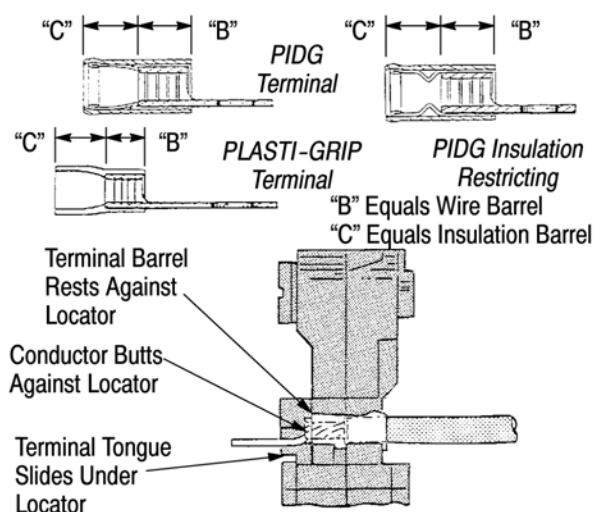
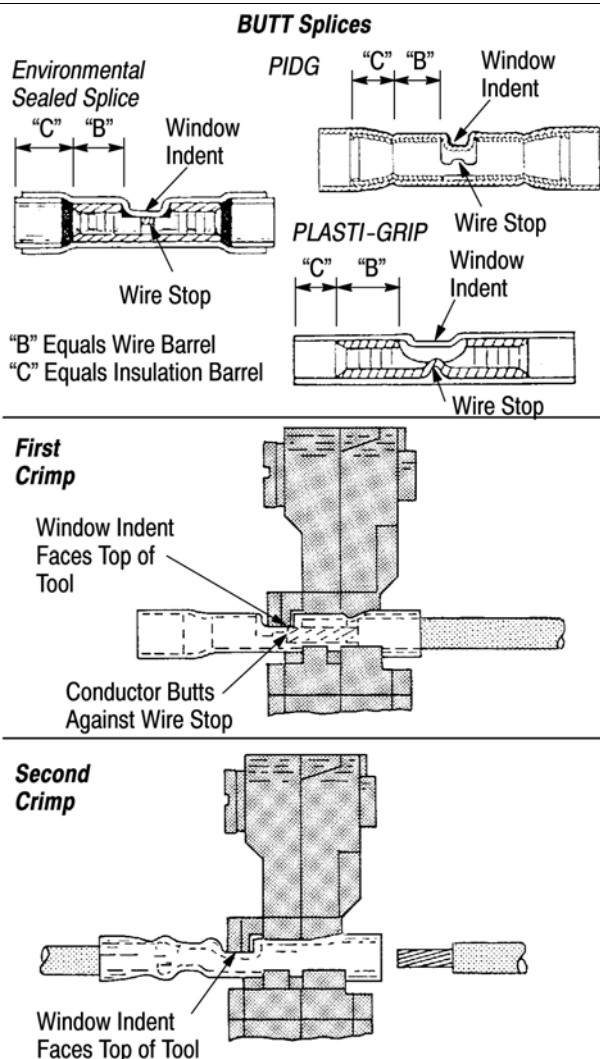

Figure 3
Figure 4
- Place terminal in crimping dies so that terminal tongue slides under locator. See Figure 3.
- Raise locator and place splice under locator as shown in Figure 4. Splice window indent faces top of tool.
To properly position pre-insulated sealed splice, apply and maintain pressure against end of splice until Step 5 is completed. See Figure 4.
- Insert stripped wire into terminal until conductor butts against locator. See Figure 3. Insert stripped wire into splice until conductor butts against splice wire stop. See Figure 4.
- ③ Wire size is not within wire range stamped on terminal tongue or splice.
- ④ Crimp not centered on wire barrel. (Terminal was not butted against locator. See Figure 3.)
- ⑤ End of conductor is not flush with or extending beyond end of wire barrel. (Check for correct strip length.)
- ⑥ Excessive flash or extruded insulation, (wrong tool, terminal, or splice combination, or damaged dies).
- ⑦ Wire insulation entered wire barrel.
- ⑧ Nicked or missing conductor strands.
- ⑨ Splice was reversed in dies (tool's locator was not seated in window indent of splice).
3. Insert UNSTRIPPED wire into ONLY the insulation barrel (see Figure 3 or Figure 4) of terminal or splice.